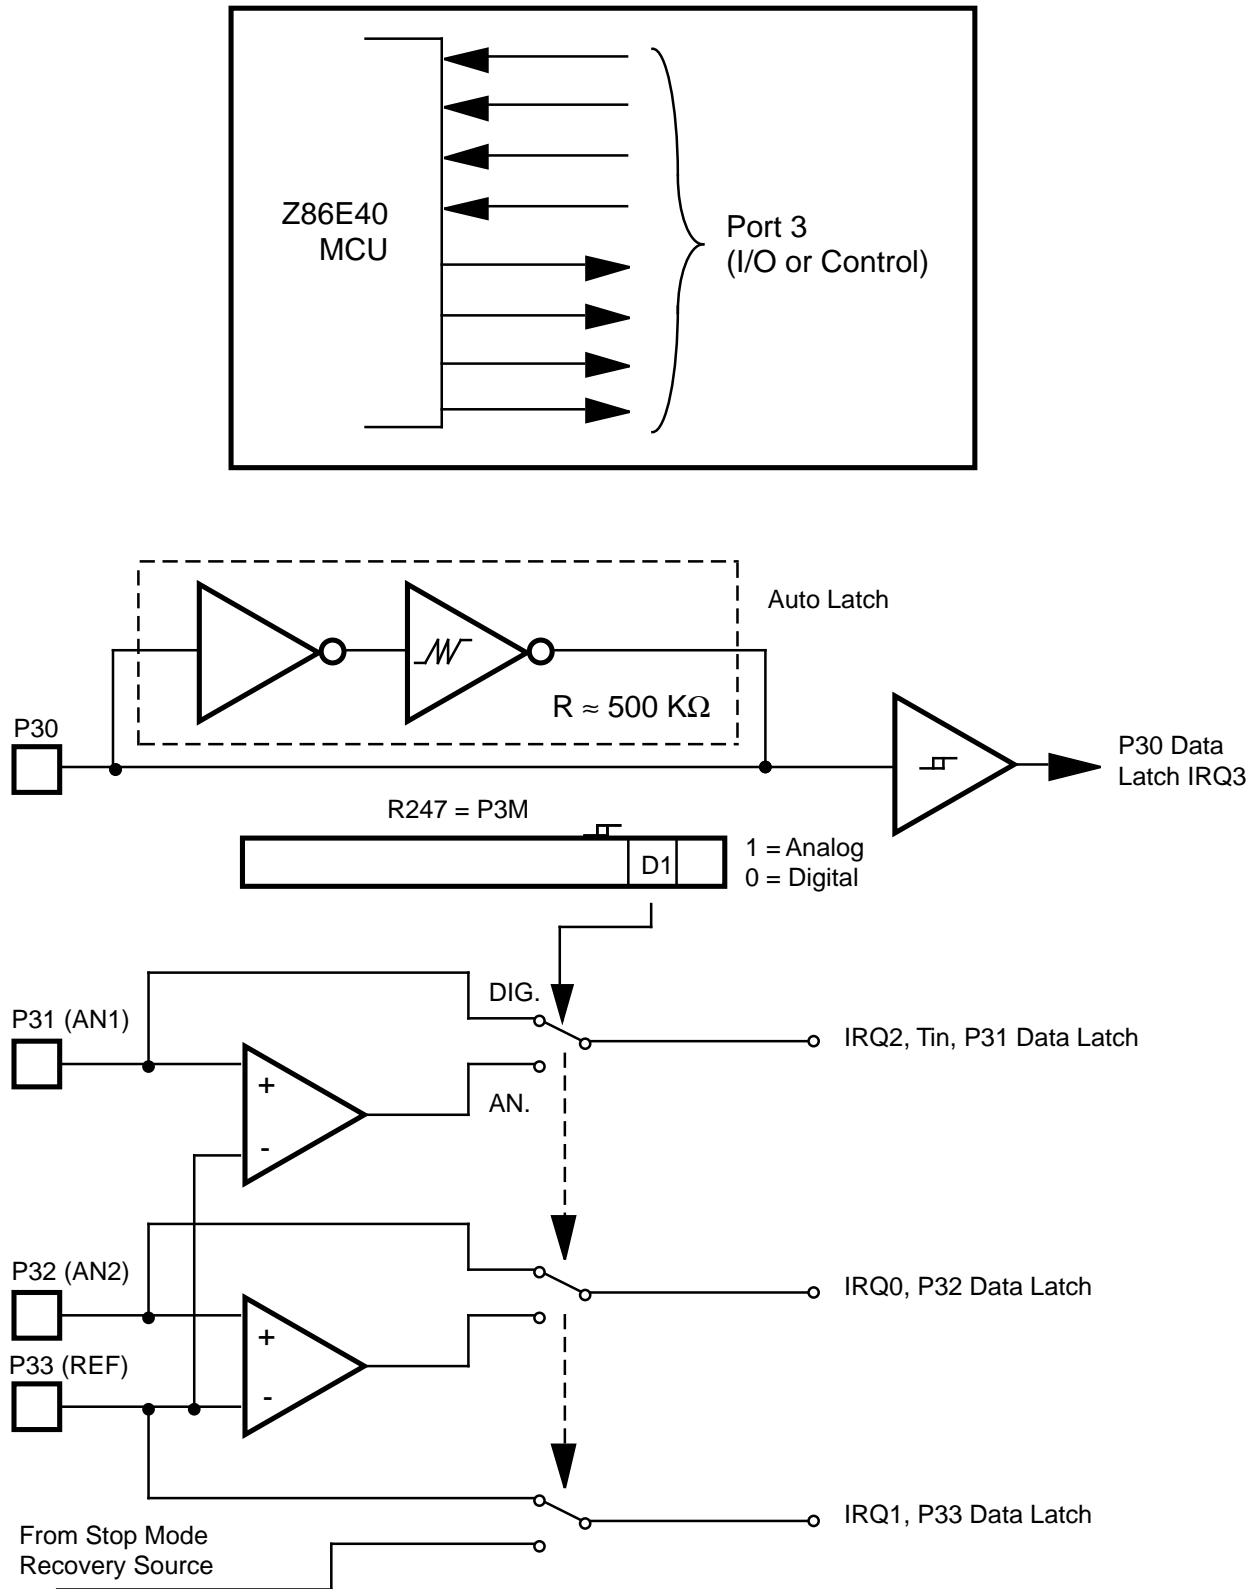

Figure 21. Port 3 Configuration
**Port 3 (P37-P30).** Port 3 is an 8-bit, CMOS-compatible port with four fixed inputs (P33-P30) and four fixed outputs (P37-P34). These eight lines can be configured by software for interrupt and handshake control functions. Port 3, Pin 0 is Schmitt-triggered. P31, P32 and P33 are standard CMOS inputs with single trip point (no Auto Latches) and P34, P35, P36 and P37 are push-pull output lines. Low EMI output buffers can be globally programmed by the software. Two on-board comparators can process analog signals on P31 and P32 with reference to the voltage on P33. The analog function is enabled by setting the D1 of Port 3 Mode Register (P3M). The comparator output can be outputted from P34 and P37, respectively, by setting PCON register Bit D0 to 1 state. For the interrupt function, P30 and P33 are falling edge triggered interrupt inputs. P31 and P32 can be programmed as falling, rising or both edges triggered interrupt inputs (Figure 21). Access to Counter/Timer 1 is made through P31 ( $T_{IN}$ ) and P36 ( $T_{OUT}$ ). Handshake lines for Port 0, Port 1, and Port 2 are also available on Port 3 (Table 9).